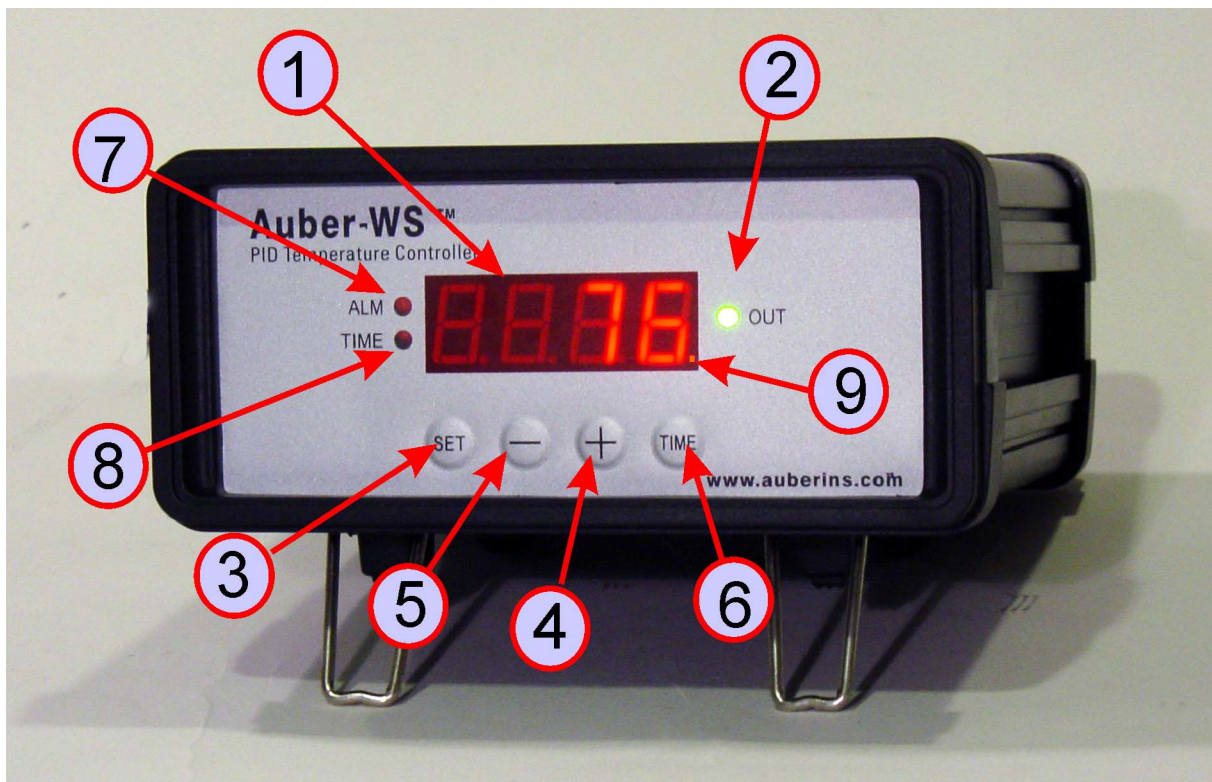

Figure 1. Front Panel.
The front panel of the controller is shown in Figure 1. The function of each item is described below:
At normal operating mode, press the “+” key (item 4 in Figure 1) to toggle the display window between the current temperature and the current step number at which the program is running (P-X). At time displaying mode, press the “Time” key to toggle the display between the total time (in minutes) since the controller was powered up and the time past in the current step. For example, the controller has been running for 100 minutes in total, but currently it is at step 2 for 40 minutes. So, when you first press “+” key, controller will show “P-2” in the window. If then you press “Time” key, the controller will show “P 40” with the Time Indicator lit.
At normal operating mode, press the “Time” key (item 6 in Figure 1) once to toggle the LED window between the current temperature and the total time (in minutes) since the controller was powered up. The Time Indicator (item 8 in Figure 1) will lit at same time. When the time is being displayed, press the “+” key will toggle the display between the total running time and the running time of the current step. For example, the controller has been running for 100 minutes in total, but currently it is at step 2 for 40 minutes. So, when you first press “Time” key, controller will show “100” in the window with the Time Indicator lit. If then you press “+” key, the controller will show “P 40” while the Time Indicator still lit.